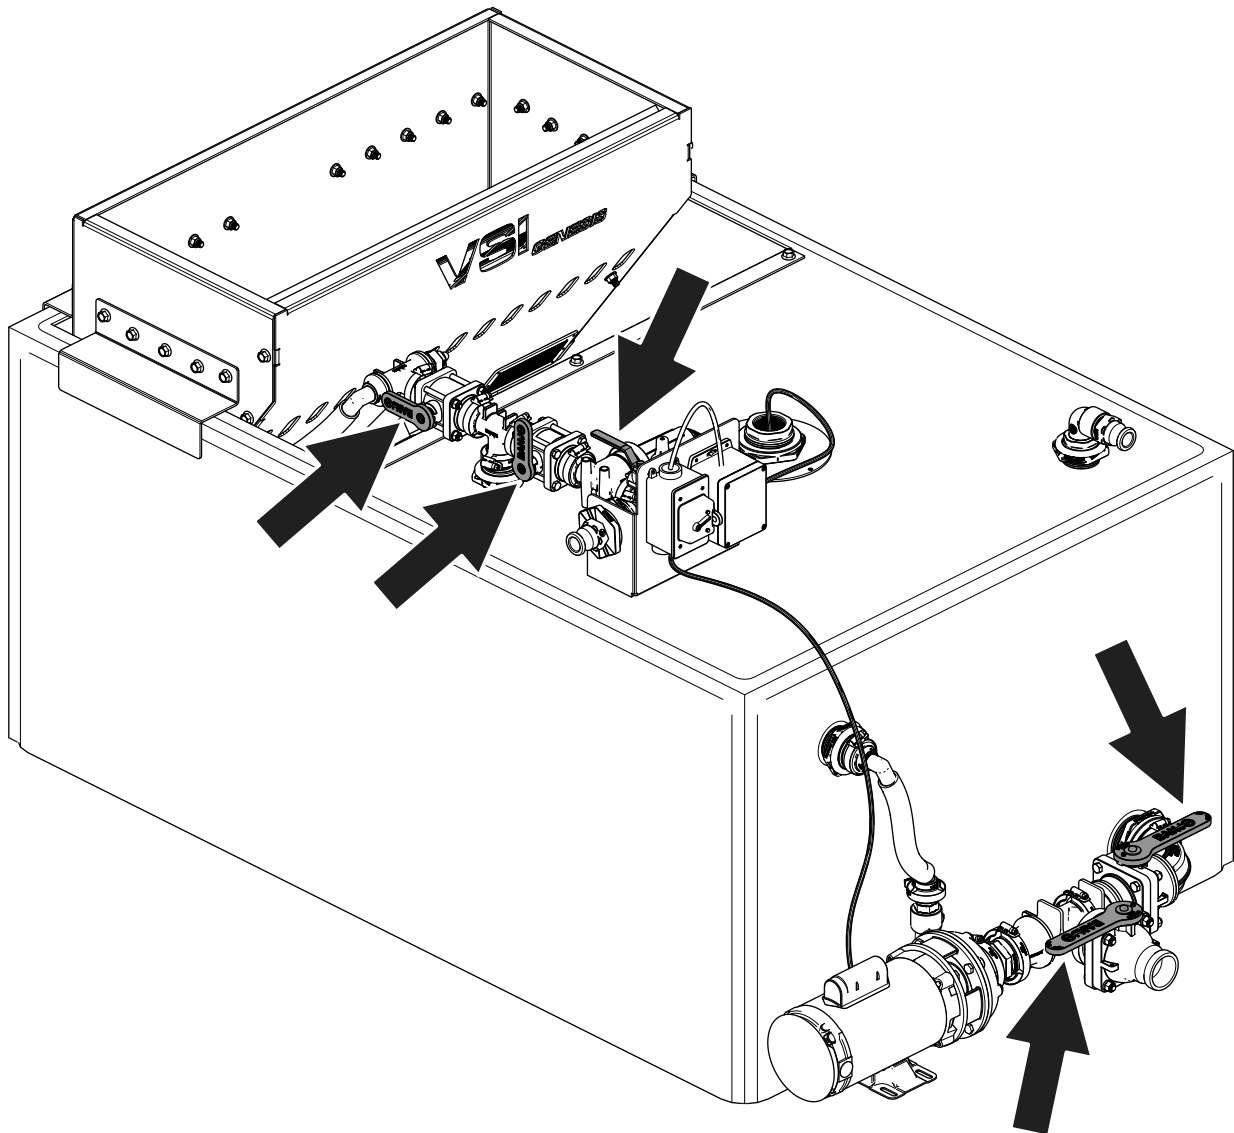

Figure 8
4. Rotate the valve handles into the positions shown in Figure 8.